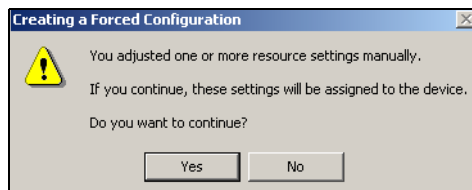

Figure 7-30 The Creating a Forced Configuration dialog box, click Yes.
30. Click **Yes** in the Creating a Forced Configuration dialog box (Figure 7-30).